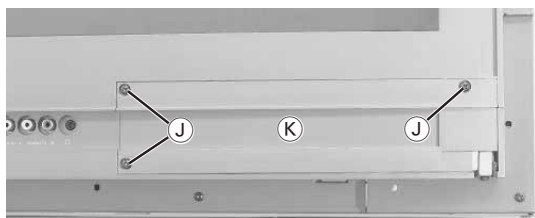
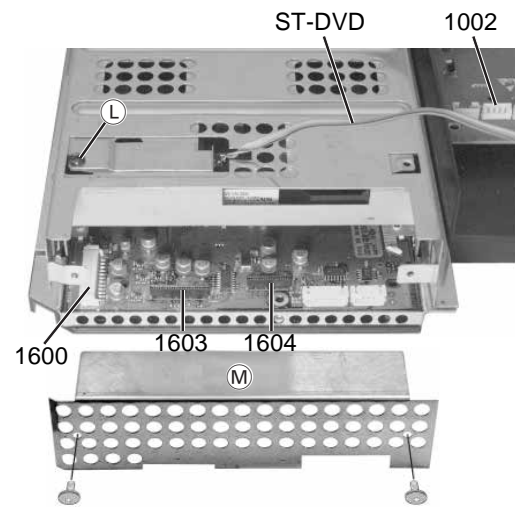

Fig. 15
Fig. 16
- Undo the 3 screws (J) on the front cover (K) and remove the cover toward the front (Fig. 15).
- In the place of the front cover (K) slide the DVD drive mechanism from the front into the TV set and fix it with the 3 screws (J).
Note: To facilitate sliding in the DVD drive mechanism, it is possible to remove the mounting sheet metal together with the switch after undoing the screw (L) (Fig. 16) on the DVD drive mechanism. After sliding in the DVD drive mechanism refit the mounting sheet metal together with the switch and fix it with the screws.
- Connect the 4-core ribbon cable from the power supply board of the DVD plug-in unit (socket "0207") with the centre socket (1002) on the eject board (Fig. 16).
- Unscrew the cover sheet metal (M), then connect the 12-core lead with the socket "1600" and the two Flexprint leads with the sockets "1603" and "1604" in the DVD drive mechanism (Fig. 16).
- Fix the sheet metal cover (M) (Fig. 16) with the screws to the DVD drive mechanism.
- Remove the jumper from the socket "ST-DVD" (Fig. 18) on the socket board and connect the 2-core lead ST-DVD (Fig. 16) from the DVD drive mechanism.